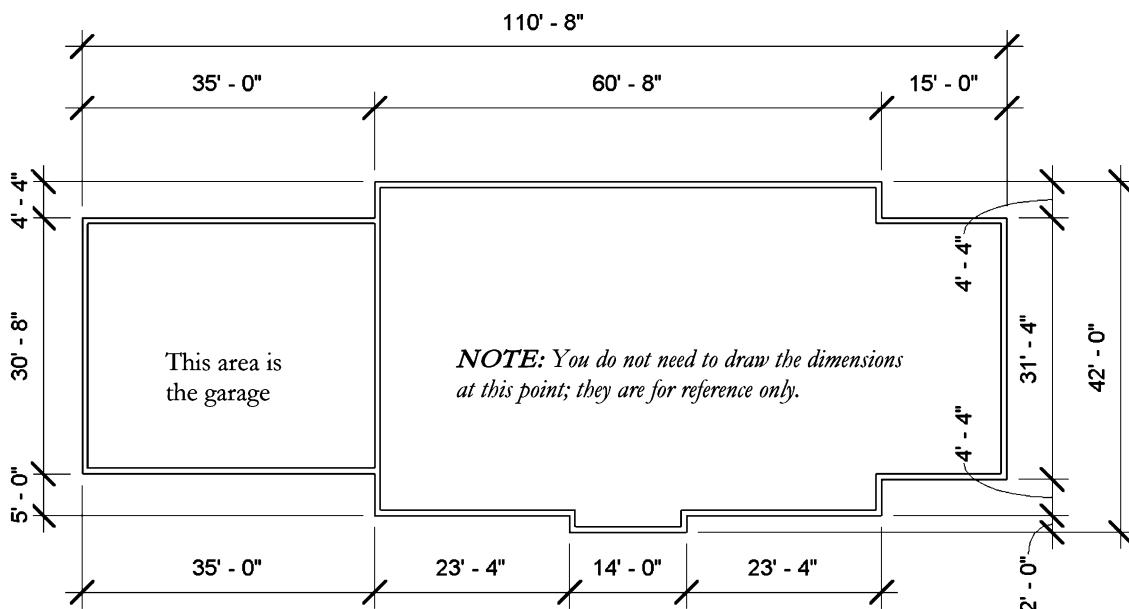

FIGURE 5-2.2 Exterior walls
3. Draw the walls shown in Figure 5-2.2. Make sure your dimensions are correct. Use the *Measure* tool, on the *QAT*, to double check your dimensions. Center the building between the elevation tags (see Figure 1-2.1). Move the elevation tags as needed by selecting the square part of the tag and using the *Move* tool (do not delete them).